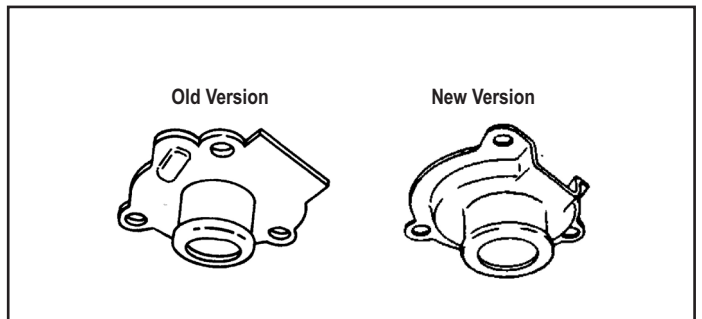

Figure 6 Extended Exhaust Covers
6. NOTE: In some cases, an older style extended type exhaust cover is used to accommodate the attachment of an exhaust hose or silencer. Refer to Figure 6.